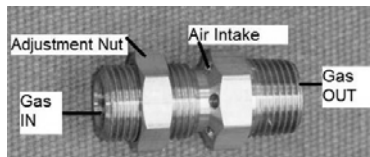

Fig. 2 (Part 1- LP Gas)
**IMPORTANT: LP Kits use air mixer orifice Installation (Part 1): Install as shown in Figure 2.**